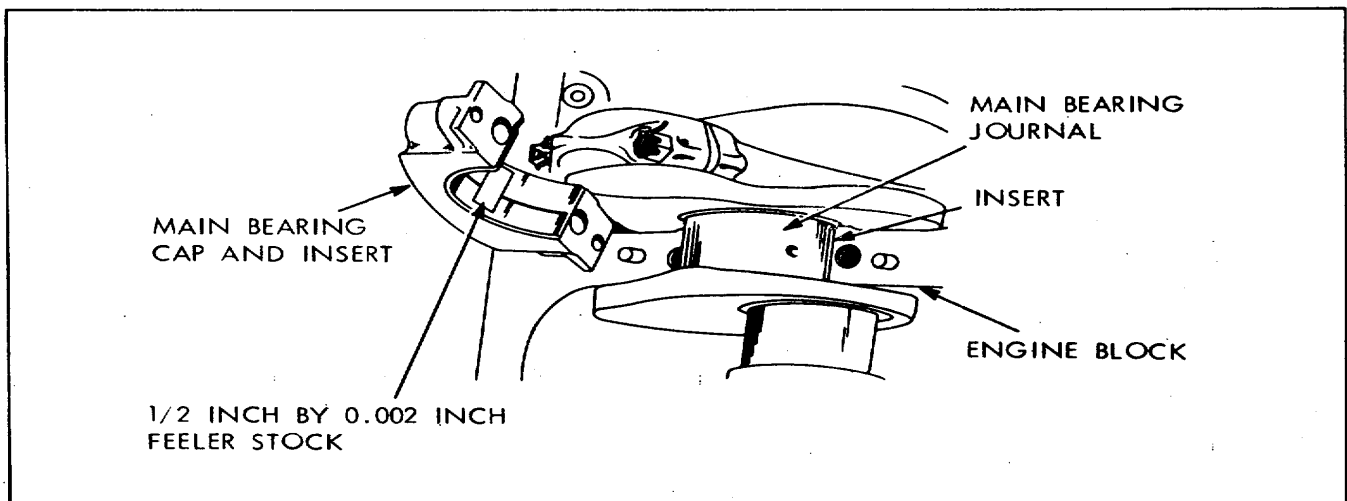

Figure 6-38. Measuring Main Bearing Clearance
(3) Remove main bearing capscrews and remove bearing caps from engine block.
(4) Remove bearing insert halves (Figure 6-38) from caps.
(5) Insert bearing removing tool or flat head rivet, with head thickness less than that of bearing shell, into oil hole in the crankshaft journal. Rotate crankshaft so that tool or rivet forces upper bearing half out of engine block. Make certain to rotate crankshaft in proper direction so that bearing lock is pushed out of notch in engine block.
(6) Coat new bearing half with OE and insert in same manner as old bearing half was removed.
(7) Coat lower bearing half with OE and insert in bearing cap.
(8) Install bearing cap following procedures in b. below to check clearances. After clearance is checked, leave capscrews loose so other bearings may be accurately checked.
(1) Remove bearing cap and place a piece of 0.002 by 1/2 by 1 inch shim stock in bearing cap (Figure 6-38).
(2) Install bearing cap and tighten as given in a.(10) above. If crankshaft rotates with noticeable drag, clearance is correct. Remove shim stock and reassemble bearings to engine.
(3) Clearance may be checked by plastigauge method-if plastigauge and special measuring scale are available. If this method is used, do not rotate crankshaft with plastigauge in place. Maximum allowable crankshaft bearing clearance, if bearing shells are being reused, is 0.0029 inch.